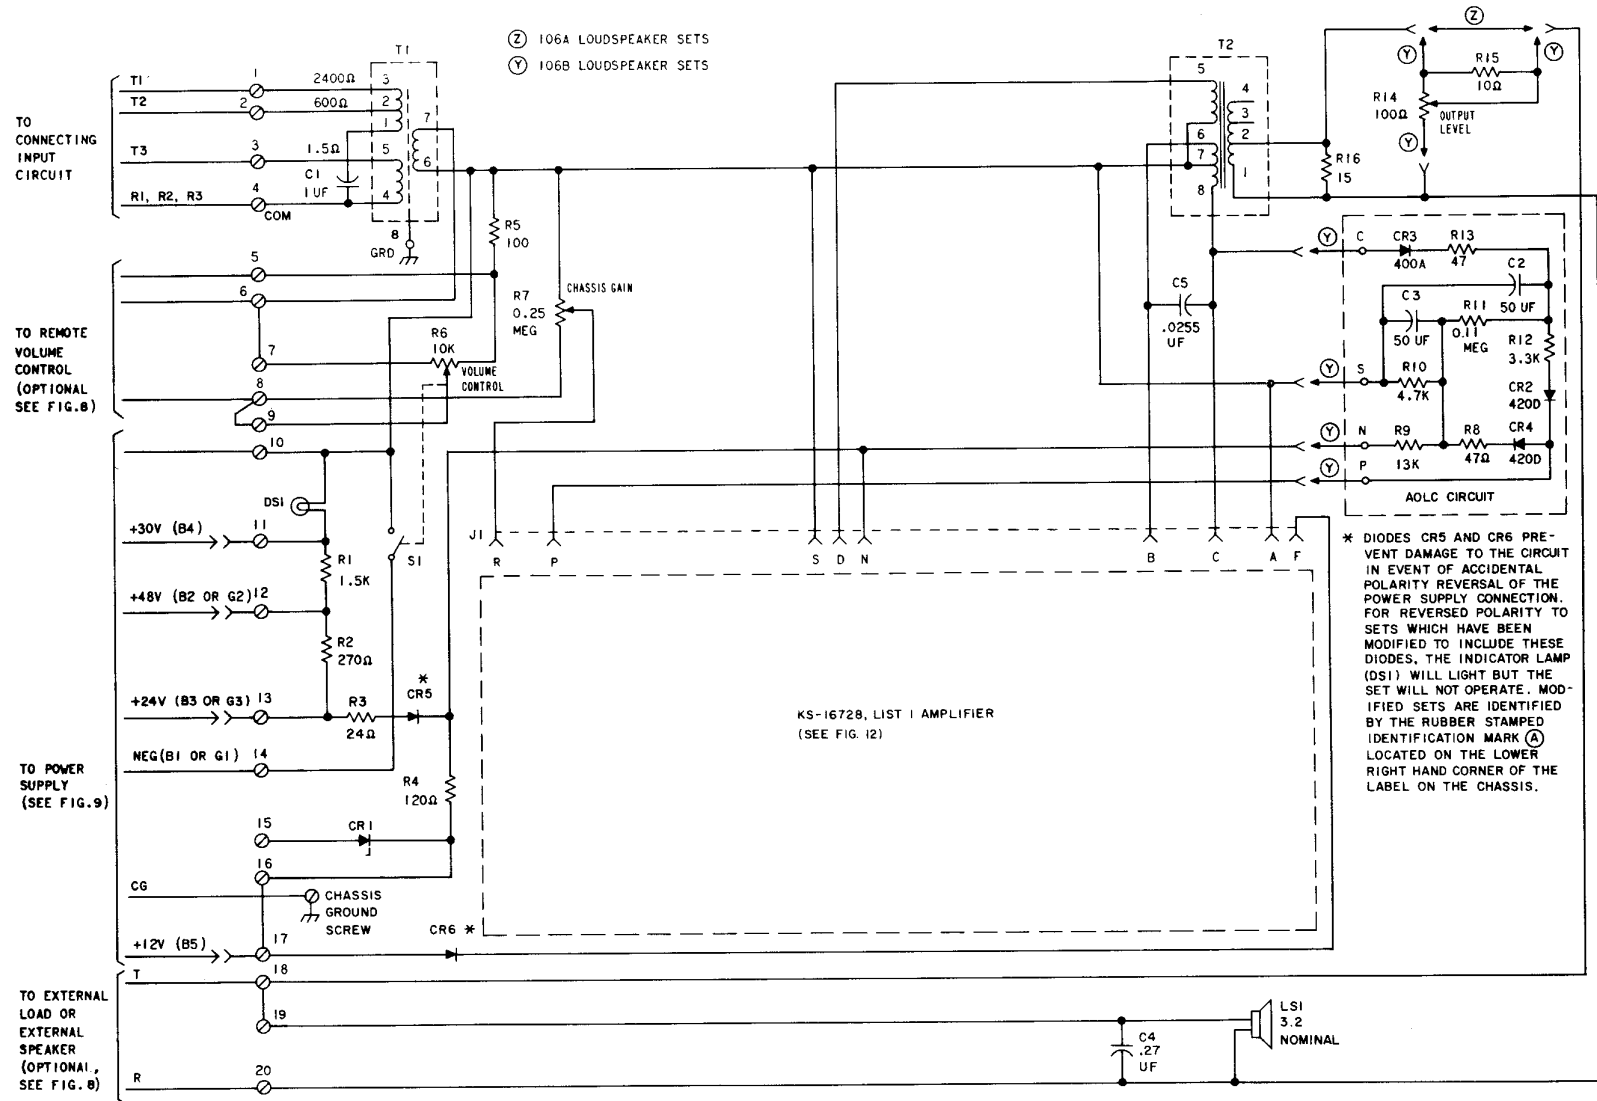

Fig. 10—Schematic—106A (MD) and B (MD) Loudspeaker Sets
4.01 Circuit schematics are provided in Fig. 10, 11, 12, 13, 14.
- (d) **Front Volume Control Arranged to Cut Off All Audio at Minimum Setting (Option N)—106A and B (MD) D and E:** Enable cutoff option by strapping terminals 5 and 10 together (Fig. 10 and 13).
- (e) **Front Volume Control Disabled (Option M, On-Off Switch Normal)—106A and B (MD) D and E:** To disable volume control, remove strap between terminals 8 and 9. Strap together terminals 7 and 8 (Fig. 10 and 13).
- (h) **On-Off Switch Disabled (Option S)—All 106-Type Sets:** All sets are factory-wired with the on-off switch connected for operation (option T). To remove switch from circuit, disconnect negative or common lead from terminal 14 and connect to terminal 10 (option S), (Fig. 10, 11, 13, and 14).
- WHEN REPLACING A SERIES 4 AMPLIFIER WITH EITHER A SERIES 5 OR A SERIES 6, MAKE THE FOLLOWING CHANGES TO THE LOUDSPEAKER SET CIRCUIT (SEE FIG. 10 AND 11):